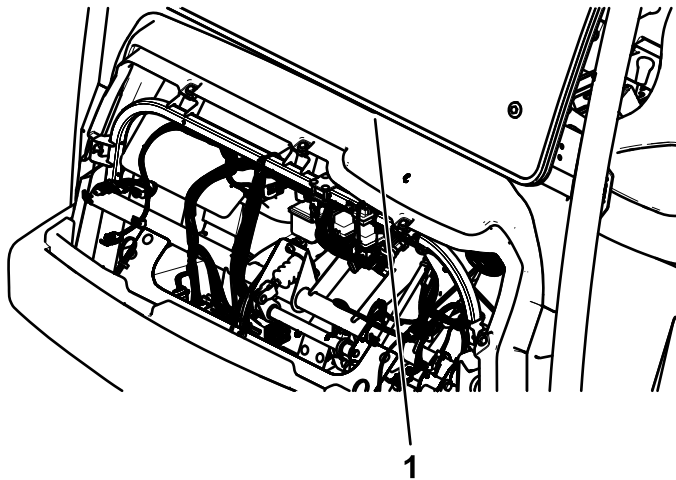

Figure 38
4. Close the gap between the dash and cab by adjusting the tap bolt (1/2 x 4 inches) until the stop plate pushes upward on the dash (Figure 38).